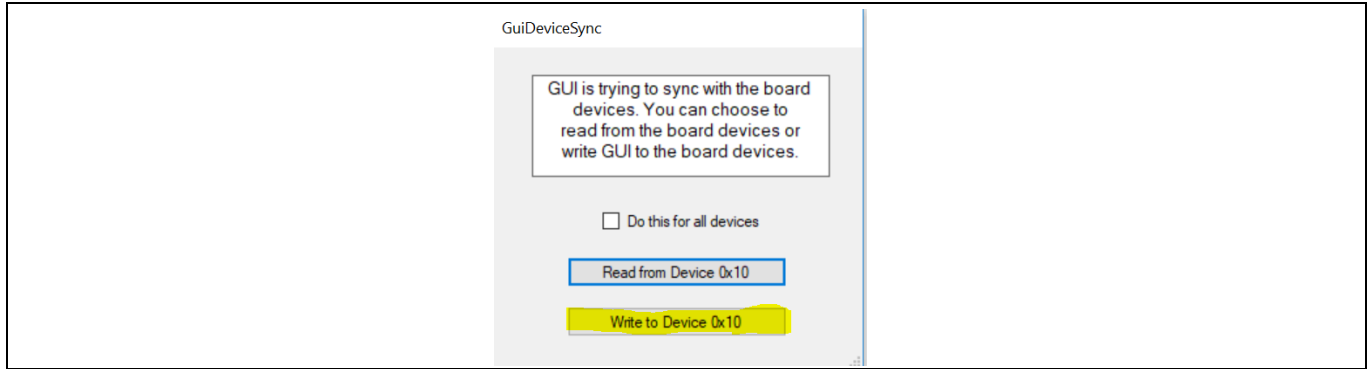

Figure 12 Write to device operation
- To re-load the design file to the device use “Open Board Design” as shown in **Figure 11** to open the “.pcd” file. The GUI will show a pop-up window (**Figure 12**). Click **Write to Device 0x10**. This will write the program into RAM of the IC.